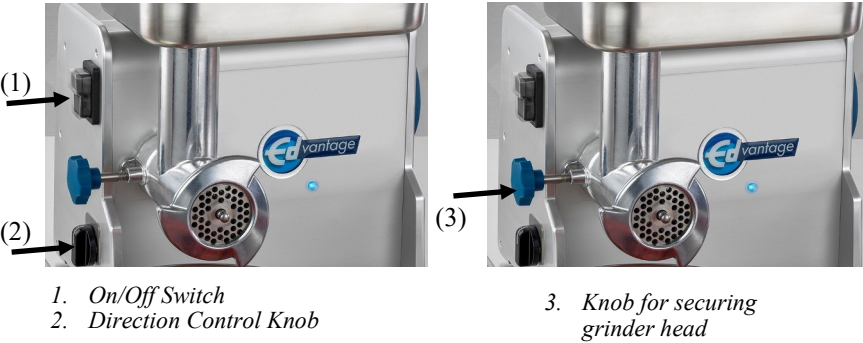

FIG. no. 6 - Position of controls
7. In case of jamming—slowly turn direction knob to REVERSE and hold for 2-4 seconds. Then allow knob to slowly return to FORWARD (*FIG no. 6*) Repeat as necessary.